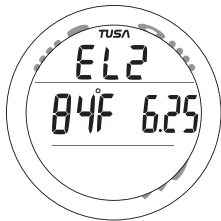

Fig. 10 - WATCH ALT
**WATCH ALT DISPLAY**, information includes (Fig. 10):